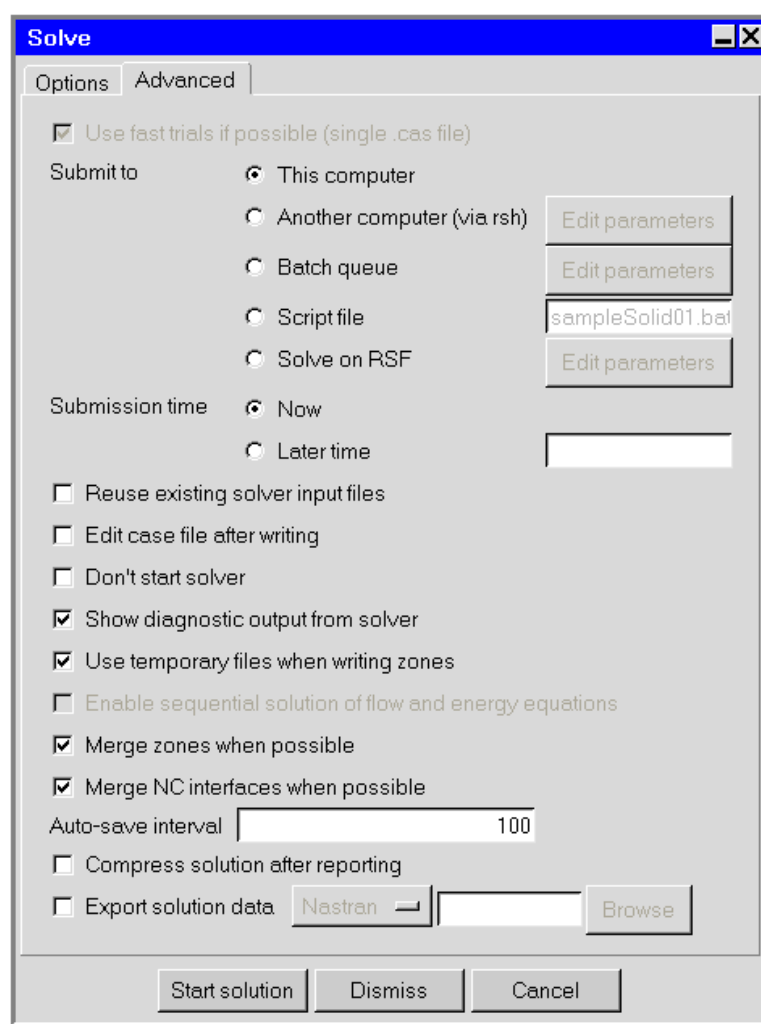

Figure 27.11.2: The Solve Panel (Advanced Tab)
4. Set the appropriate advanced solution controls in the **Advanced** tab of the **Solve** panel (Figure 27.11.2). See Section 27.11.2 for details.
1. Click the **Advanced** tab in the **Solve** panel (Figure 27.11.2)
5. Enable the appropriate advanced solution control options. The following options are available in the **Advanced** tab of the **Solve** panel (Figure 27.11.2):